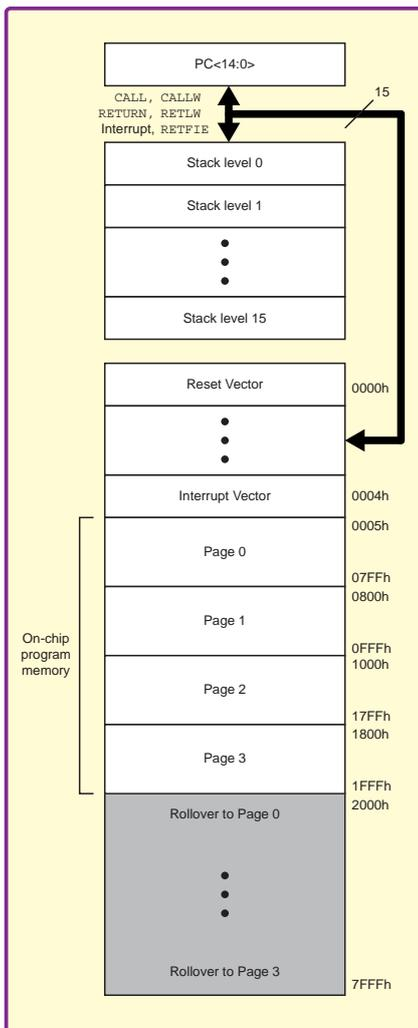

Fig.2. Program memory map and stack for PIC16F1829
a simple software reset. This is done by setting the Program Counter to 0000h. When an interrupt occurs, the Program Counter is forced to address 0004h, which is the Interrupt Vector Address. This means the following rows after 0004h incorporate the code for the ISR (interrupt, as mentioned in Lesson 10). The last program memory address is 7FFFh, which works out as 32,768 memory locations in total. See Fig.2 for a better idea of what it looks like. Note the locations of the Program Counter (PC), Reset Vector, Interrupt Vector and the four Program Memory pages.